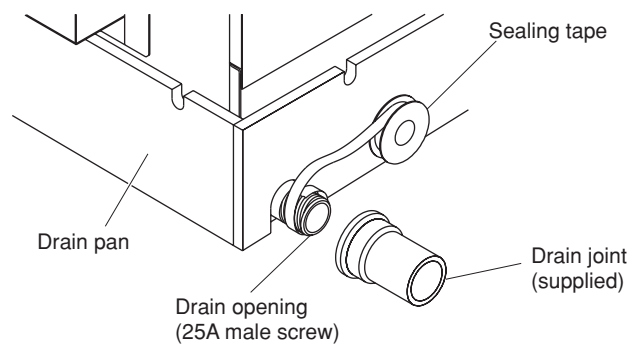
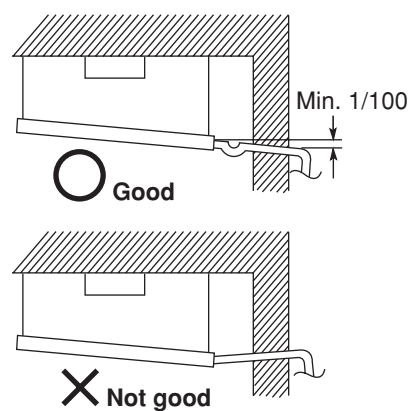

Fig. 3-119a
Fig. 3-119b
- (2) If connecting a drain joint (supplied) to the threaded drain port, first wrap the drain port threads with sealing tape, then connect the joint. (Fig. 3-119a)
- (3) After connecting the drain pipe securely, wrap insulator (field supply) around the pipe.
- (4) Ensure the drain pipe has a downward gradient (1/100 or more) and prepare traps as indicated in Fig. 3-119b.